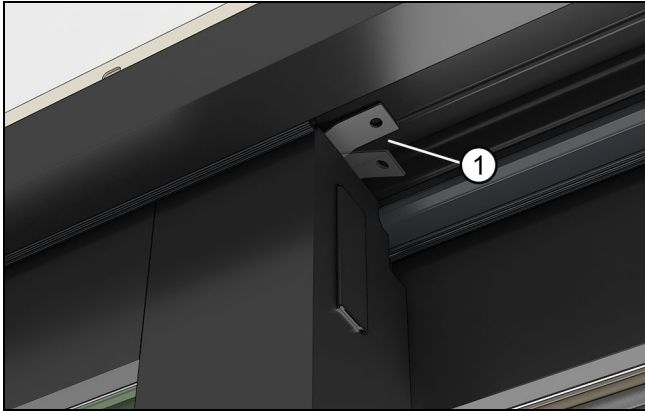
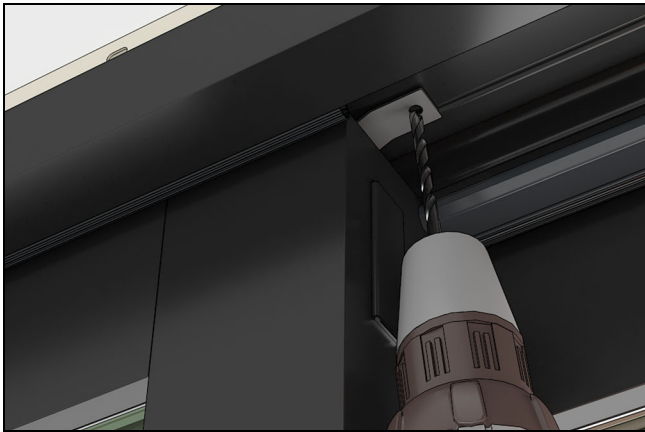

Figure 84
Figure 85
8. Bend the top stationary bracket up against the head jamb and pre-drill a 3/16" (5) hole through the head jamb using the bracket as a template. See Figure 84 and Figure 85.